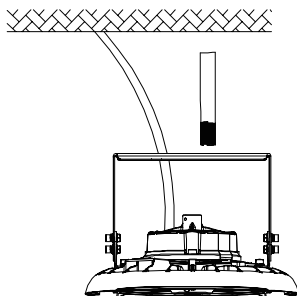

Figure 5
1. A lock nut should be used for safety. Once the conduit/pipe is screwed into the fixture, the lock nut should be tightened against the fixture. (Figure 5)